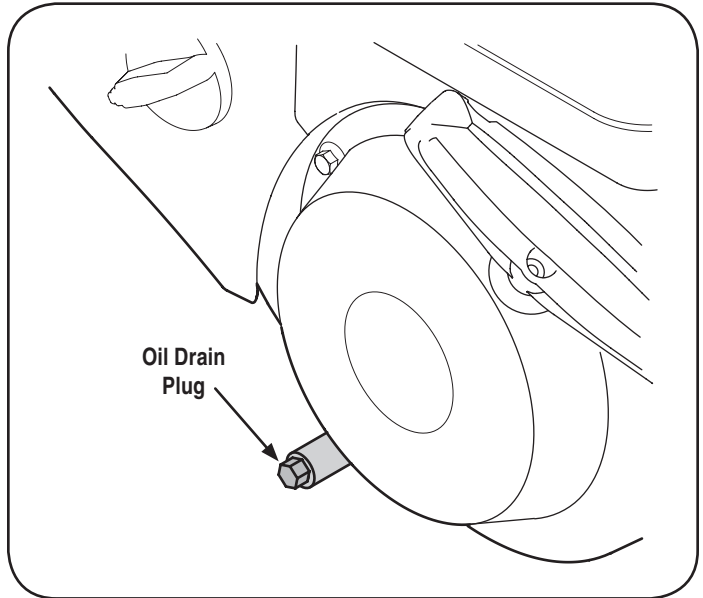

Figure 12
3. Remove oil drain plug. See Figure 12.